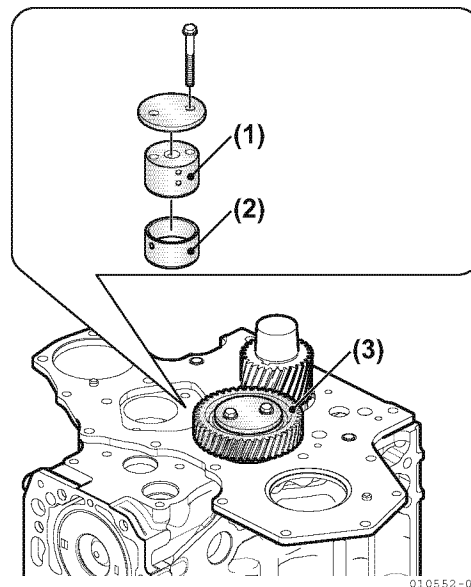

Figure 5-121
- The bushing is pressed into the idler gear. Measure the bushing inner diameter and the outer diameter of the shaft, and replace the bushing or idler gear shaft if the oil clearance exceeds the wear limit (Figure 5-121).